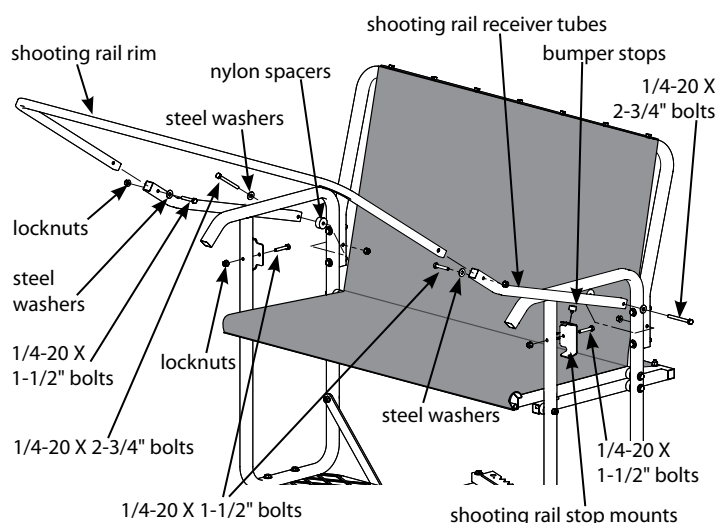

Figure 7
11. a. Attach the two shooting rail stop mounts (10328) to the side seat support loops using (2) provided 1/4-20 x 1-1/2" bolts and locknuts. **SEE FIGURE 7.** Be sure that each mount is oriented to the outside of each side seat support loop.
b. Press (2) provided rubber bumper stops (48679) into the top side hole of each stop mount. **SEE FIGURE 7.**
12. Attach the two shooting rail receiver tubes (10326) to the outside of each side seat support loop using (2) provided 1/4-20 x 2-3/4" bolts, locknuts, steel washers and nylon spacers. **SEE FIGURE 7.**
13. Insert the shooting rail rim (10327) into the shooting rail receiver tubes and secure together using (2) provided 1/4-20 x 1-1/2" bolts, locknuts and steel washers. **SEE FIGURE 7. You must now tighten all nut and bolt assemblies. Be sure not to over tighten or crush tubing when tightening!**